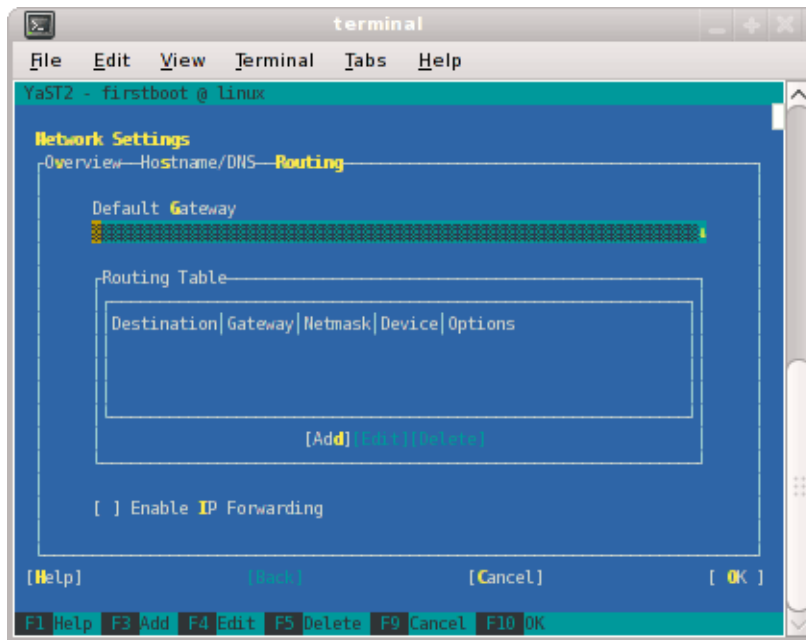

Figure 2-15 Network Settings Routing Screen
- 8. Select **Routing** shown in Figure 2-15 on page 50 and enter your house/public network default router information there. Now you can select **OK**.